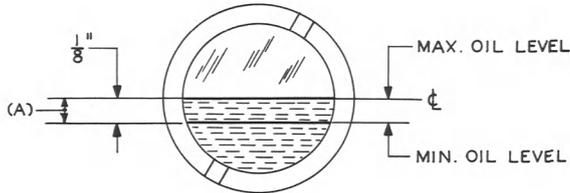

Fig. 4 - Oil Level Limits
(4) Bearing Boxes (No. 45A and 46A Drives): Fig. 4(A) - The running level of the oil shall not be higher than the center line and not lower than 1/8 inch below the center line of the oil sight.